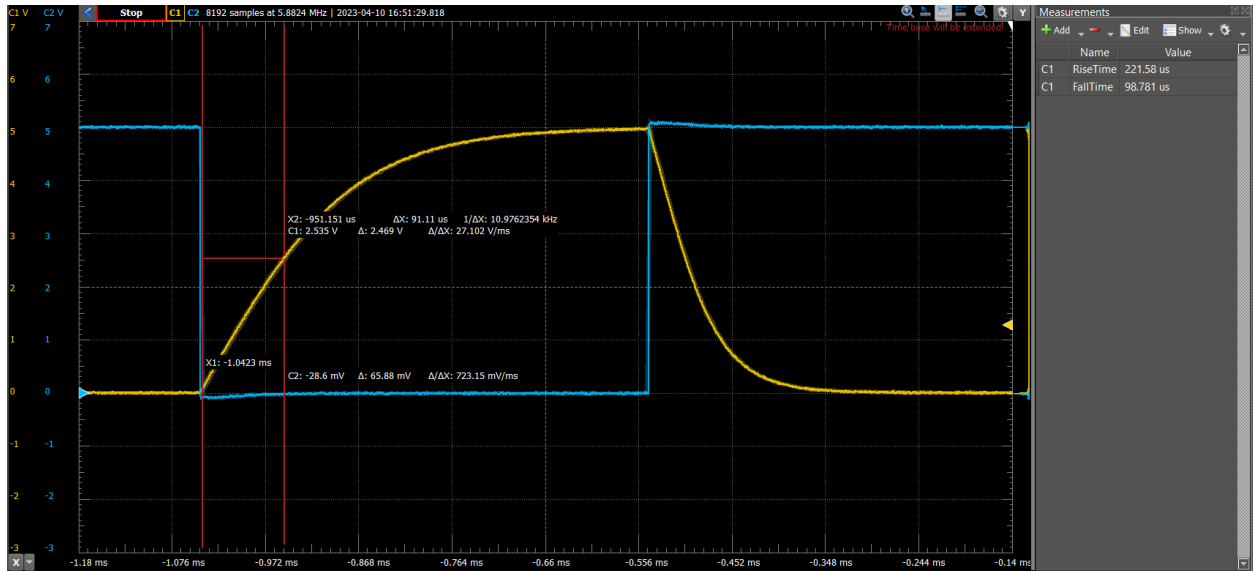

Figure 4: Graph of the Capacitor Rise time with TPLH
- i. As shown in Figure 4 and 5, the rise time was 221.58us and the fall time 98.781us.